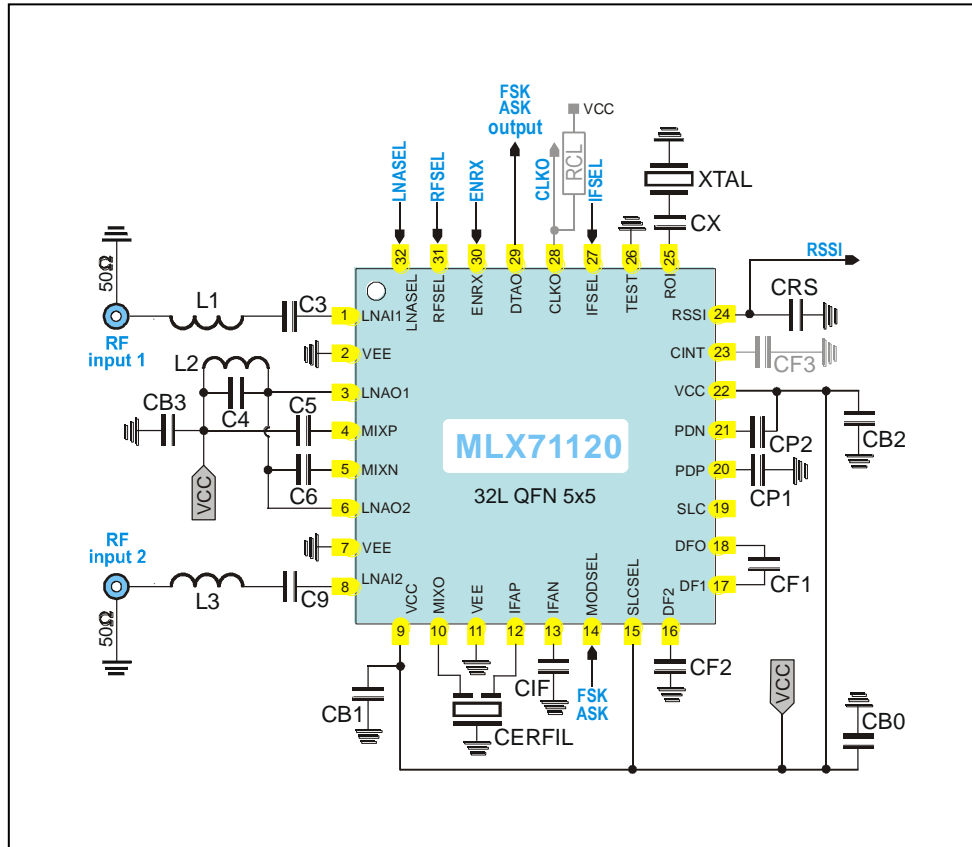

Fig. 10: Dual-channel circuit schematic, peak detectors activated
typical values at $T_A = 23^\circ\text{C}$ and $V_{CC} = 3\text{ V}$, all parameters based on test circuits as shown Fig. 10
5.1.1. Test Circuit Component List for Figure 10